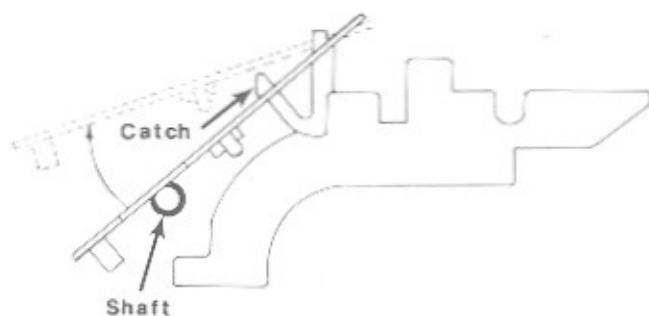

Figure 4-9. Removing The Cell Assembly
2. Push back on the catch (as shown in *figure 4-9*) to unhook the board, then remove the board.
The plastic circuit board catch, shown in *figure 4-9*, can be damaged very easily if it is allowed to push its way through the circuit board. Always pull the catch tip to the right (as shown in *figure 4-9*) so that the catch will pass through the circuit board without damaging the catch tip.